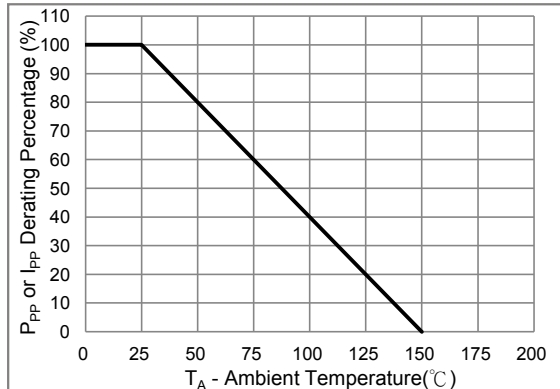
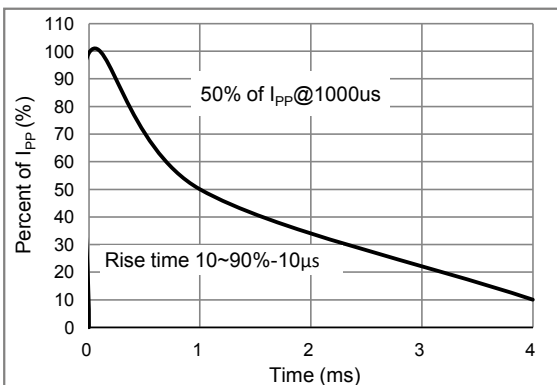

Fig.2 Derating Curve
Fig.3 10/1000us Pulse Waveform
1. Non-repetitive current pulse, per Fig. 3 and derated above $T_A = 25^\circ\text{C}$ per Fig. 2.